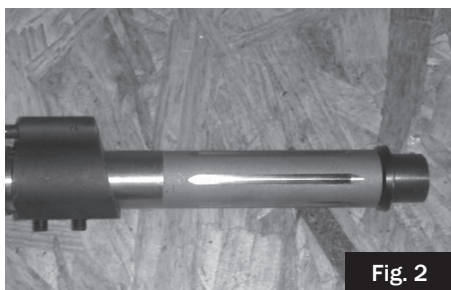

Fig. 2
1. If the bolt has ripped the lip of the casing off (Fig.2) you will first need to get the bolt locked to the rear. This is done by putting your thumb on left side of receiver on the bottom of the bolt catch, then pull the charging handle while maintaining pressure on the bolt catch. Once the bolt is locked back insert a cleaning rod down the bore to remove the casing.
The first thing to check would be your gas block which would be the two pictures below labelled gas block (fig. 2 and 3) for reference.